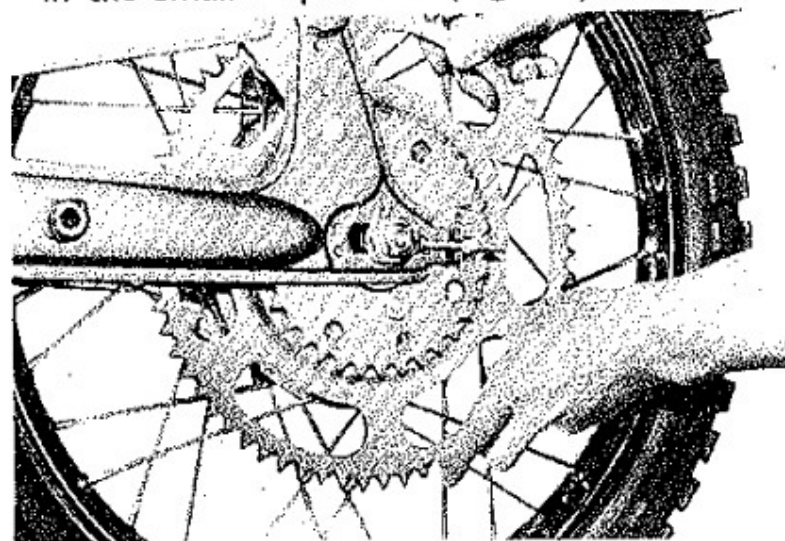

Fig. 40
5. Turn the big sprocket 45° either way and push the 4 bosses into the 4 large holes in the smaller sprocket. (Fig. 40)